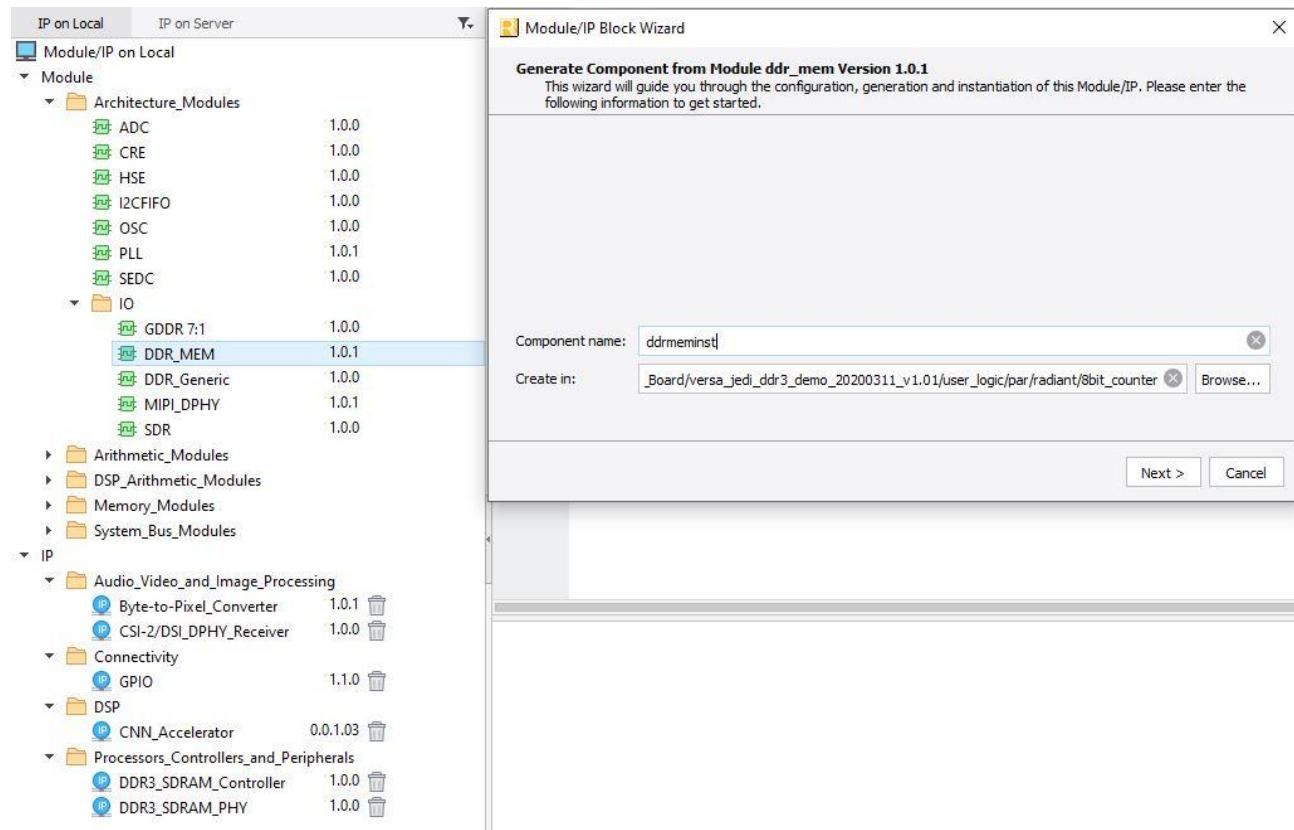

Figure 7.8. DDR\_MEM Option Selected in the IP Catalog Tab
**Figure 7.8** shows the type of interface selected as GDDR\_MEM and module name entered. This module can then be configured by clicking the Next button.